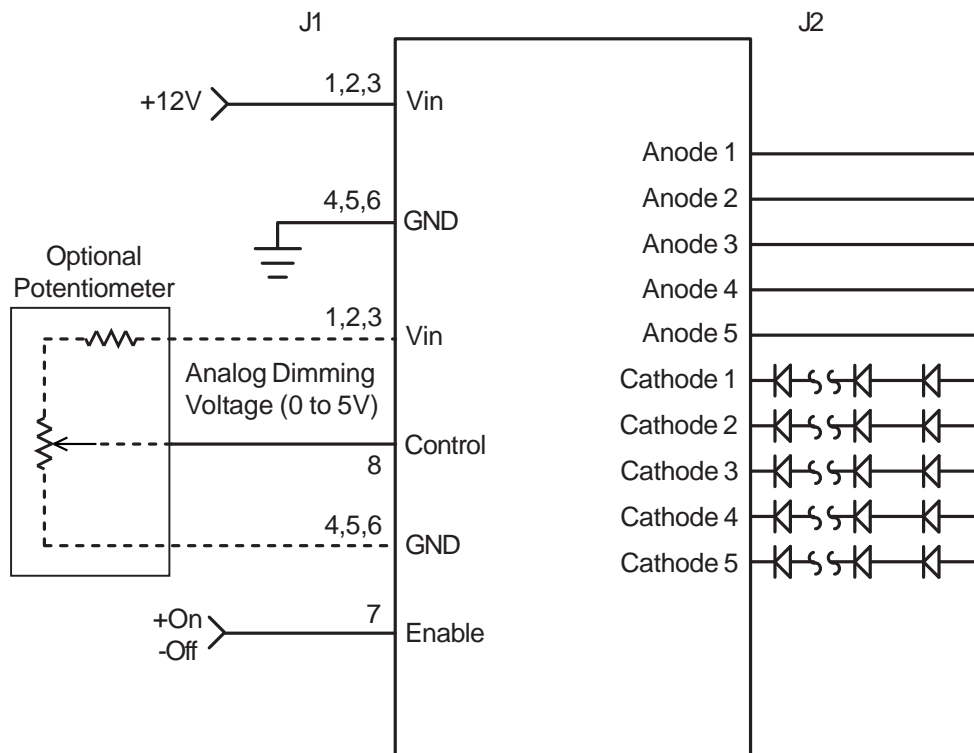

Figure 1
- OPERATION: Onboard PWM configuration as shown in Figure 1 allows the user to control display brightness by controlling the onboard PWM generator. The user is responsible to provide an analog control signal.